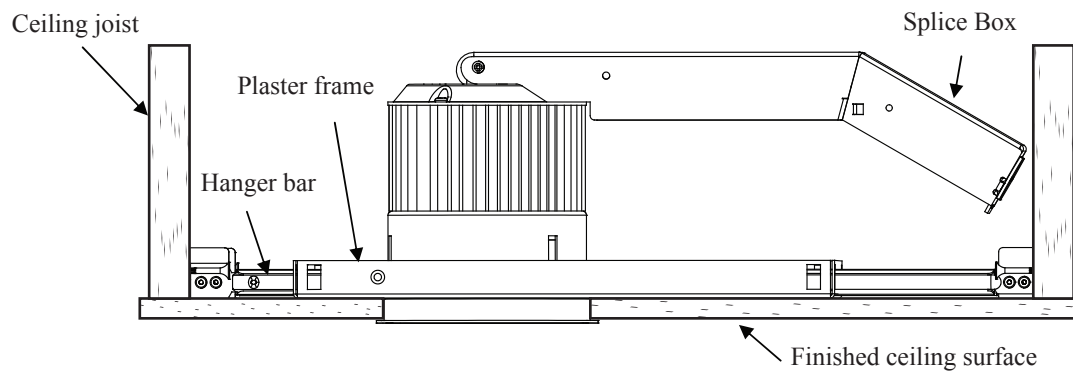

FIG 1.
8. Install the housing into the plaster frame using the three black spring clips (**FIG 1**)